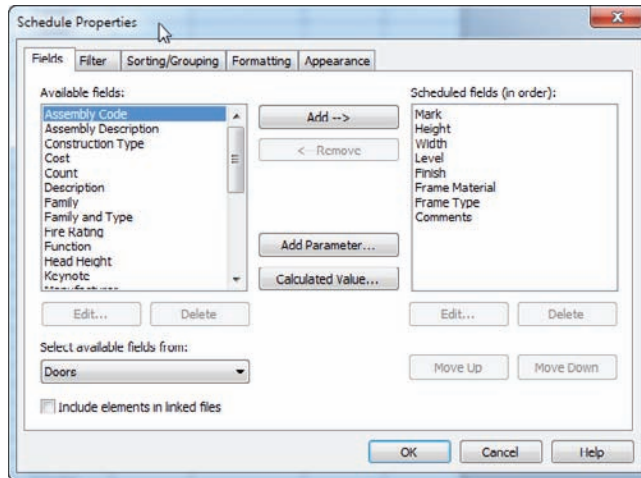

FIGURE 11.3 Adding the fields to produce a door schedule
4. The next dialog lets you add the fields (parameters) required for your schedule. The first field you'll add is Mark. To do this, find Mark in the area to the left, and click the Add button in the middle of the dialog, as shown in Figure 11.3.
5. When this field is added, add the following fields using the same method (see Figure 11.3):